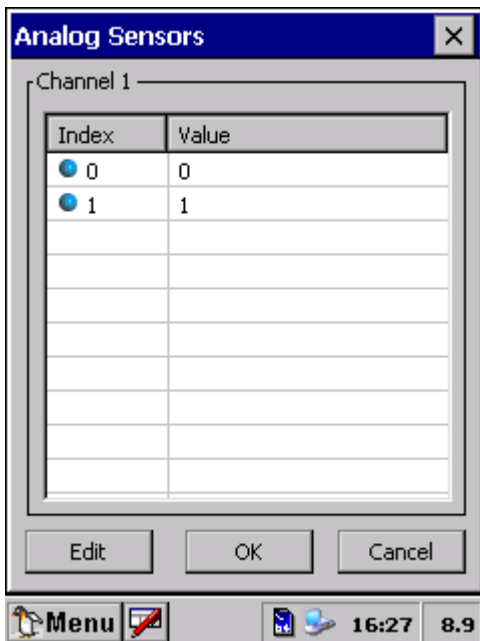

Figure 4-12 Set Calibration Coefficients.
1. Select the sensor channel, refer Figure 4-11, press *View/Edit* in the lower part of the window; a window similar to Figure 4-12 appears.